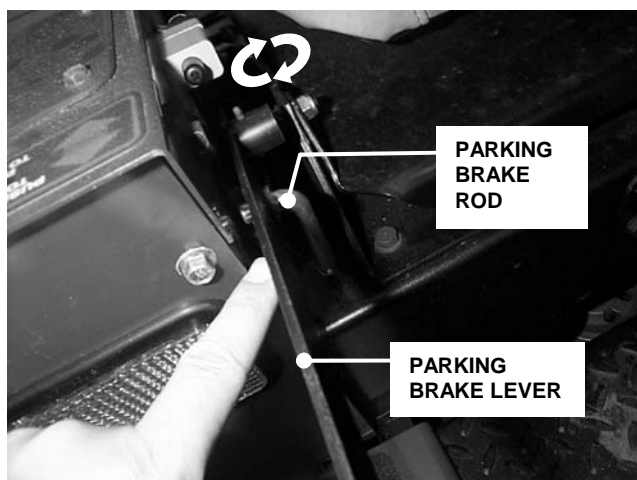

FIGURE 4.3
1. The parking brake can be adjusted by removing the rod from the lever and rotating it clock-wise to increase brake tension. When properly adjusted, the parking brake lever should require 18 to 22 pounds of force to set the brake. If this adjustment does not result in proper braking action contact your authorized SNAPPER dealer for corrective action. See Figure 4.3.